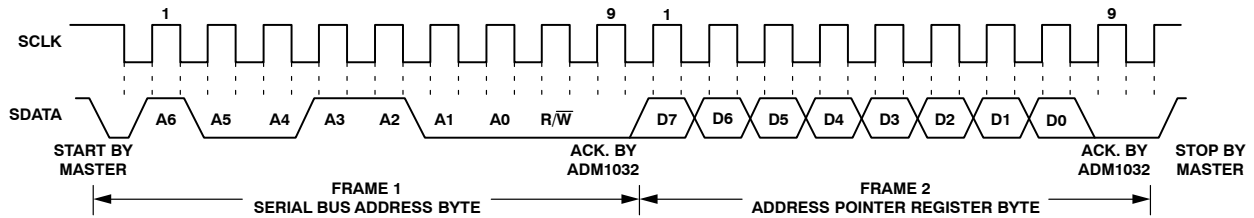

Figure 14. Writing to the Address Pointer Register Only
1. If the address pointer register value is unknown or not the desired value, it is first necessary to set it to the correct value before data can be read from the desired data register. This is done by performing a write to the ADM1032 as before, but only the data byte containing the register read address is sent because data is not to be written to the register. This is shown in Figure 14.
2. If the address pointer register is known to be at the desired address already, data can be read from the corresponding data register without first writing to the address pointer register and Figure 14 can be omitted.